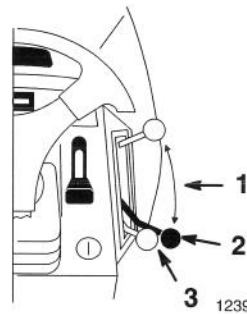

Figure 5
3. Move ground speed selector to "N" (Fig. 5).